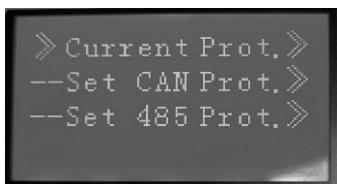
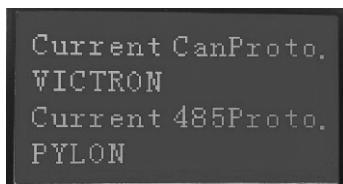
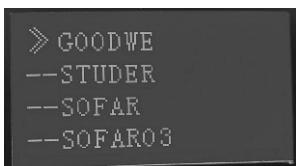
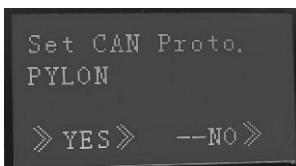

Figure 1-1
Figure 1-2
Figure 1-2.1
Figure 1-2.2
1) Under the main interface shown in Figure 1-1, select the down key and place the front cursor "»" in the "Para Setting" column. Enter key to enter as shown in Figure 1-1. At this time, place the front cursor "»" in the "Current Prot" column. Enter key to enter as shown in Figure 1-2 to view the current default communication protocol.
Under the interface shown in Figure 1-1, select downwards with the Down key, place the front cursor "»" in the "Set CAN Prot" column, and press the Enter key to enter Figure 1-2.1. In the interface of Figure 1-2.1, the communication protocol for the requirement can be selected by pressing the Down key. Place the cursor "»" in the corresponding column of the protocol name for the requirement, and press the Enter key to enter the protocol settings, as shown in Figure 1-2.2. At this time, select "PYLON" to set the communication protocol, and press the Enter key to select "YES" to enter the successful setting interface, as shown in Figure 1-2.3. Press the ESC key to return to the previous interface.
Under the interface shown in Figure 1-1, select downwards using the Down key, place the front cursor "»" in the "Set 485 Prot" column, and enter the Enter key to set the corresponding RS485 communication protocol. The operation steps are the same as setting the CAN communication protocol.